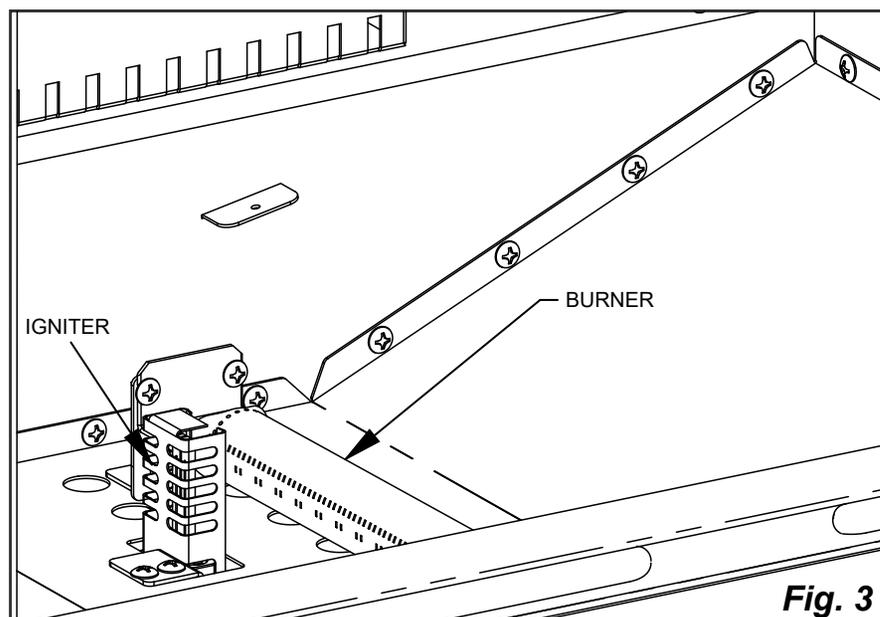

Fig. 3
5. The burner is now visible. You do not have to remove the burner, but it will be necessary to view the flame in a later step. (Fig. 3)